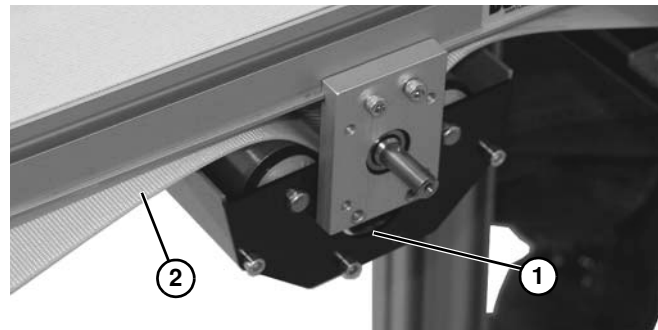

Figure 89
- Lower and remove mid drive module (**Figure 89, item 1**) from belt (**Figure 89, item 2**).